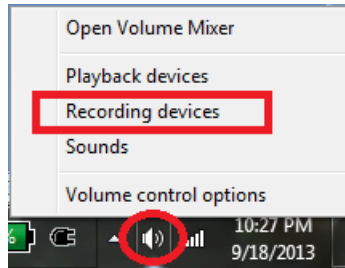

Figure 13: Opening Sound Properties window
- Open *Recording* tab in *Sound* properties window. (Select *Sound* from *Control Panel* or right click on the *Sound* icon in the *Task bar* as shown in Figure 13)